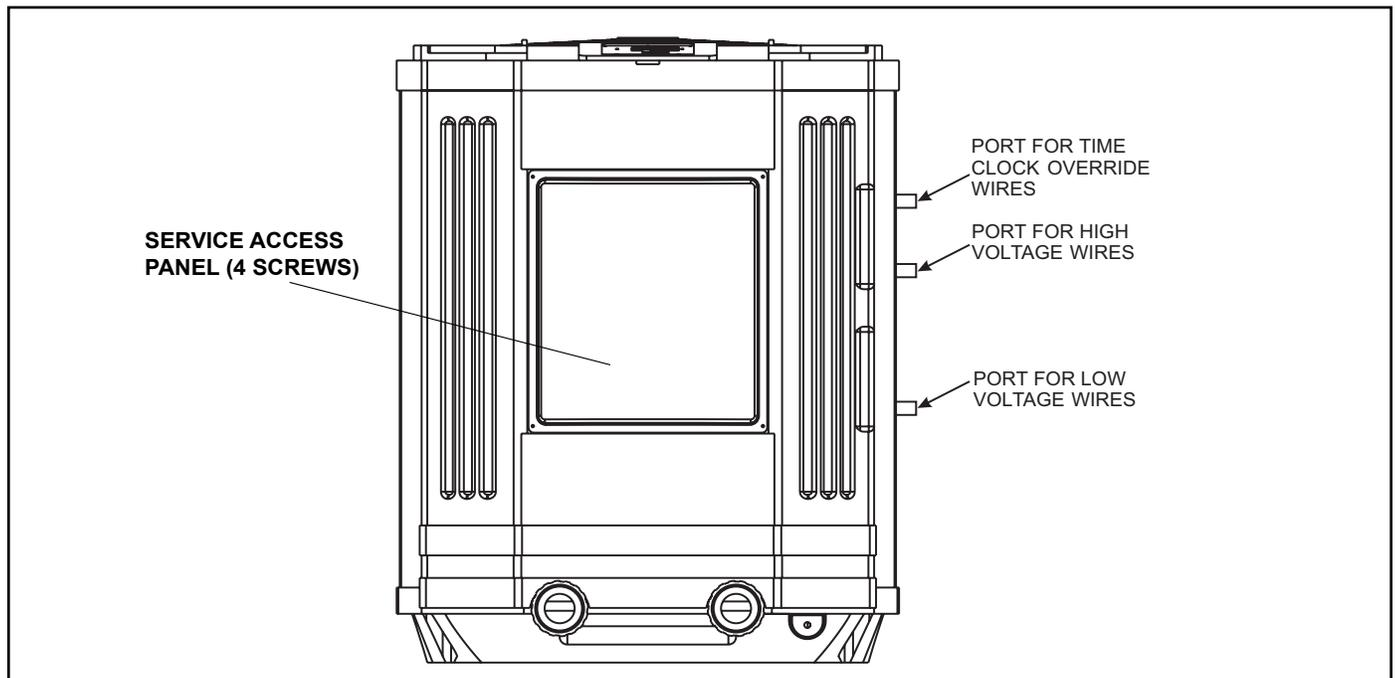

Figure 12. AE-Ti Heat Pump Front View
2. Remove the 4 screws that attach the service/access panel to the heat pump unit (see Figure 12).
4. Electrical supply lines must be run through watertight conduit. Run the wires and conduit from the power source and connect them to the conduit connection labeled “High Voltage Connection” on the right side of the heat pump. See Figure 12 for connection location.
2. Remove the 5 screws that attach the service/access panel to the heat pump unit (see Figure 12 on page 15). This will allow you to access the wires from the AE-Ti control panel for the remote control installation (see Figure 13).
3. Run the wires from the pool/spa control system into the conduit connection labeled “Low Voltage Connection”, located on the lower right hand side of the heat pump (see Figures 12 and 14).
**NOTE** One end of the wiring reserved to run into the conduit connection labeled “Low Voltage Connection”, located on the lower right hand side of the heat pump (see Figures 12 and 14).